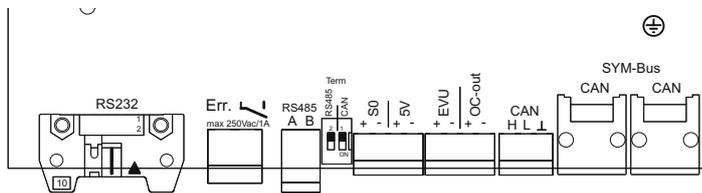

Figure 18: Interface terminals
3. Connect the connection cables to the corresponding connection terminals (see Figure 18 on page 26).
7. This termination does not depend on the manner of cabling that is used. The switch is found on the board next to the terminal block. (See Figure 18 on page 26)